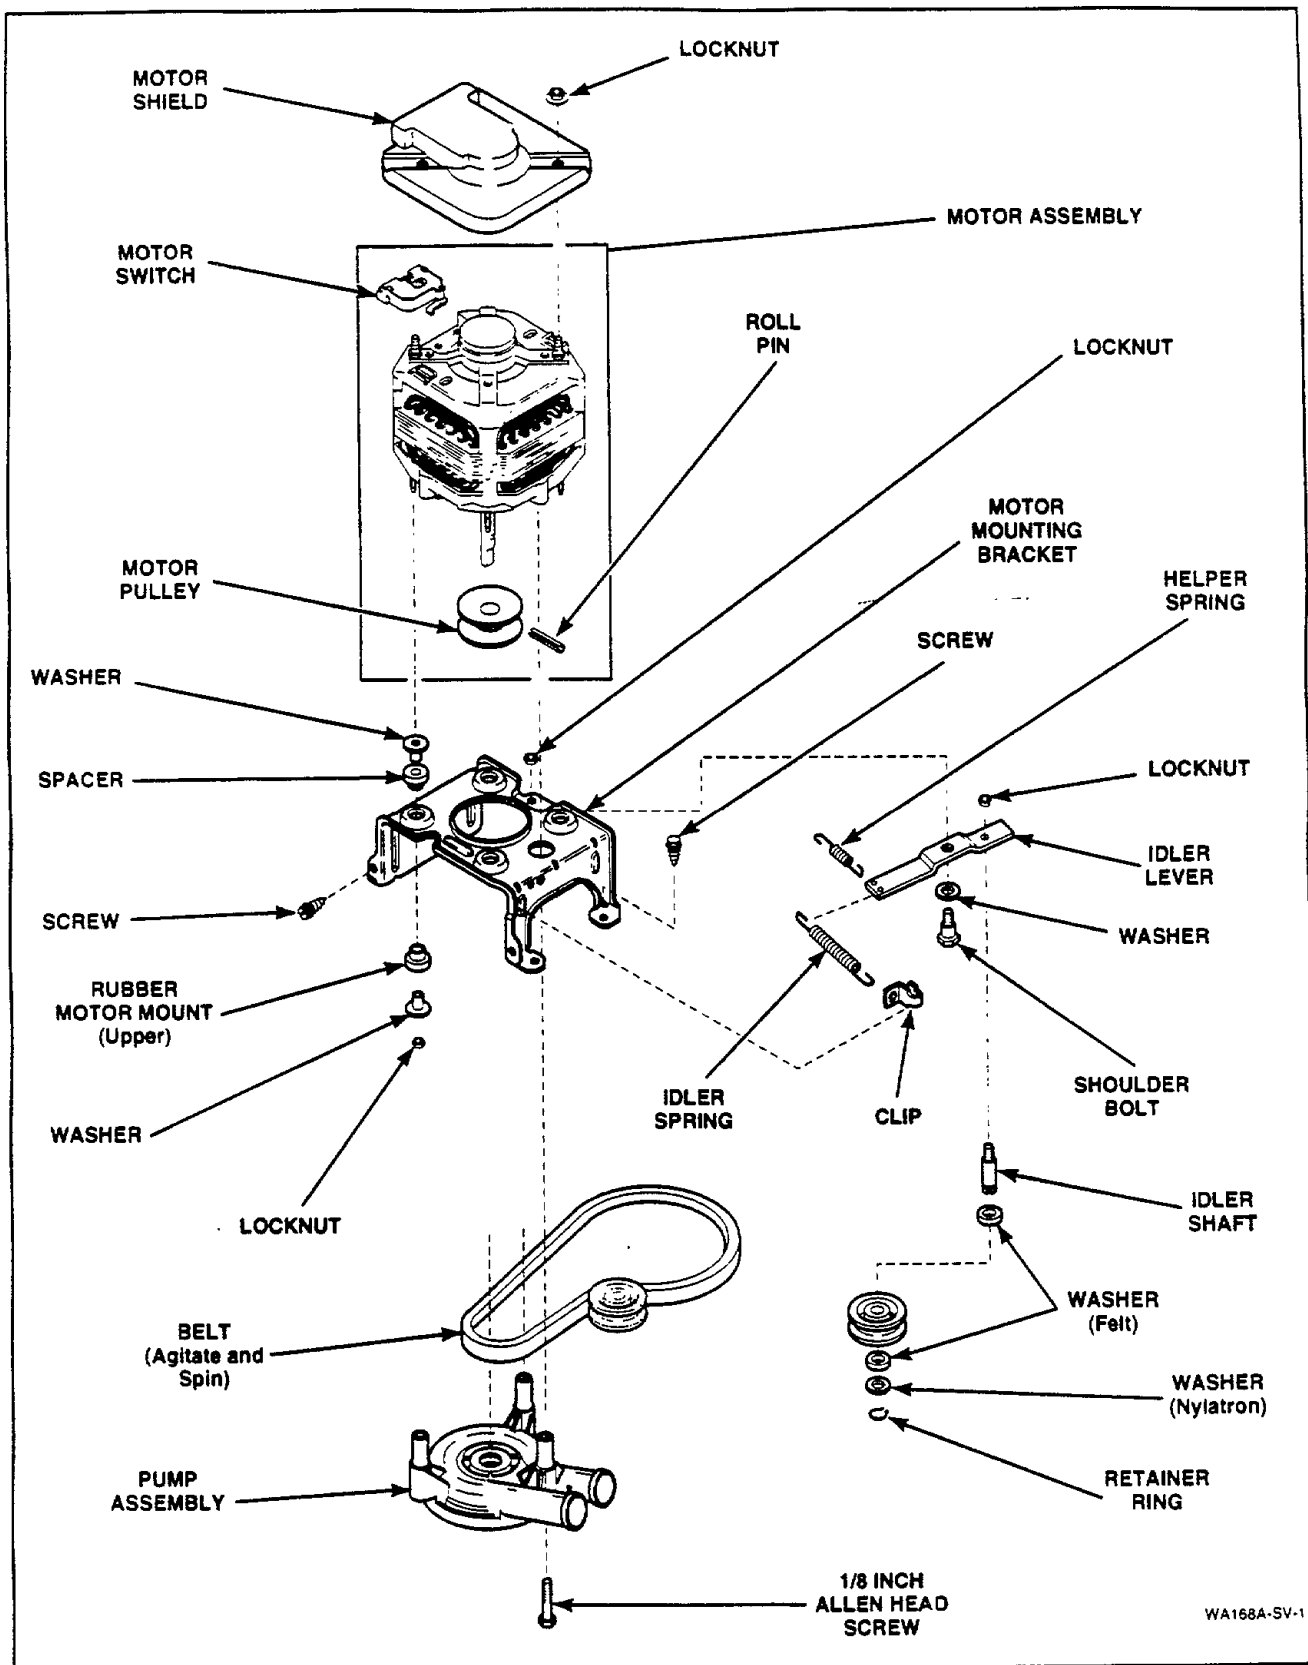

Figure 27
Remove nuts, steel washers, spacers and rubber mounts holding motor to mounting bracket, *Figure 27*. Lift motor off mounting bracket and remove balance of rubber mounts and steel washers from motor mounting studs.
NOTE: Refer to *Figure 27* for motor and mounting bracket assembly sequence.
- Unhook the idler spring and helper spring from the idler lever, *Figure 27*.
- Remove nut, washer and bolt holding idler lever and pulley to motor mounting bracket, *Figure 27*.
NOTE: Refer to *Figure 27 or 30* for idler lever and pulley assembly sequence.
NOTE: To remove pulley, support motor shaft (to prevent bending shaft) and drive out pulley roll pin, *Figure 27 or 30*.